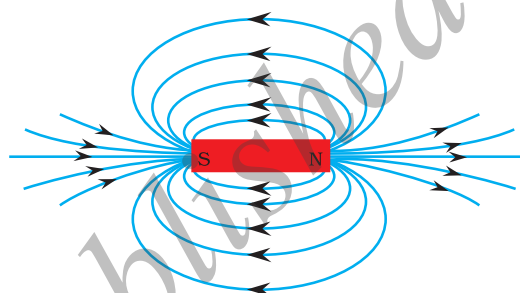
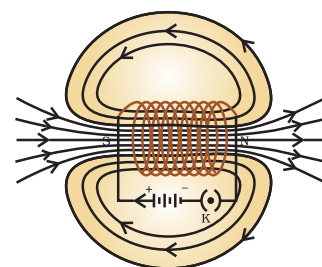

Figure 13.4
Figure 13.10
- Repeat the above procedure and draw as many lines as you can. You will get a pattern shown in Fig. 13.4. These lines represent the magnetic field around the magnet. These are known as magnetic field lines.
Magnetic field is a quantity that has both direction and magnitude. The direction of the magnetic field is taken to be the direction in which a north pole of the compass needle moves inside it. Therefore it is taken by convention that the field lines emerge from north pole and merge at the south pole (note the arrows marked on the field lines in Fig. 13.4). Inside the magnet, the direction of field lines is from its south pole to its north pole. Thus the magnetic field lines are closed curves.
The relative strength of the magnetic field is shown by the degree of closeness of the field lines. The field is stronger, that is, the force acting on the pole of another magnet placed is greater where the field lines are crowded (see Fig. 13.4).
A coil of many circular turns of insulated copper wire wrapped closely in the shape of a cylinder is called a solenoid. The pattern of the magnetic field lines around a current-carrying solenoid is shown in Fig. 13.10. Compare the pattern of the field with the magnetic field around a bar magnet (Fig. 13.4). Do they look similar? Yes, they are similar. In fact, one end of the solenoid behaves as a magnetic north pole, while the other behaves as the south pole. The field lines inside the solenoid are in the form of parallel straight lines. This indicates that the magnetic field is the same at all points inside the solenoid. That is, the field is uniform inside the solenoid.